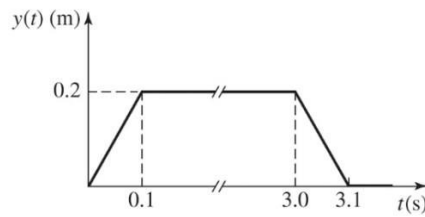

Figure 6: Road bump profile
$y$  is the displacement of road bump profile shown in Figure 6,
- Open the **Signal Editor** block to define the input function profile based on the Figure 6 as below:
- Enter the **Time** values as [0 0.1 3 3.1 10] and **Data** values as [0 0.2 0.2 0 0] based on road bump profile from Figure 6.